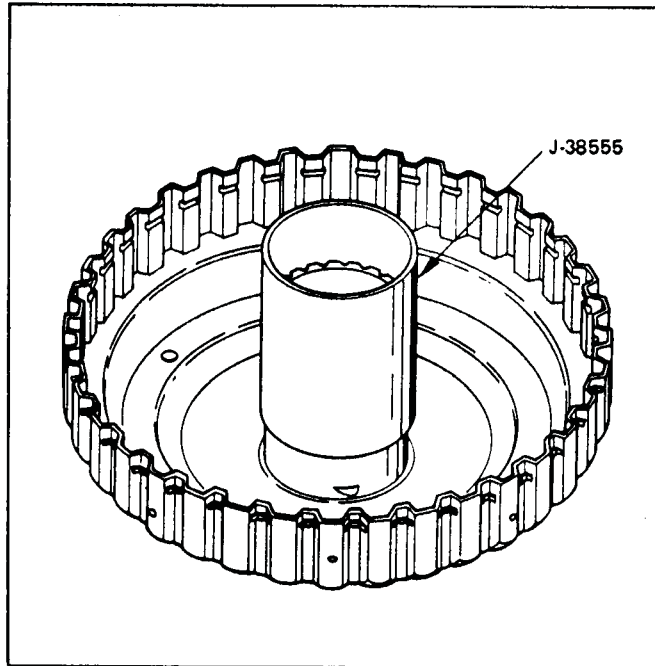

Figure 64
1. Install inner lip seal protector onto overrun clutch housing, as shown in Figure 64.